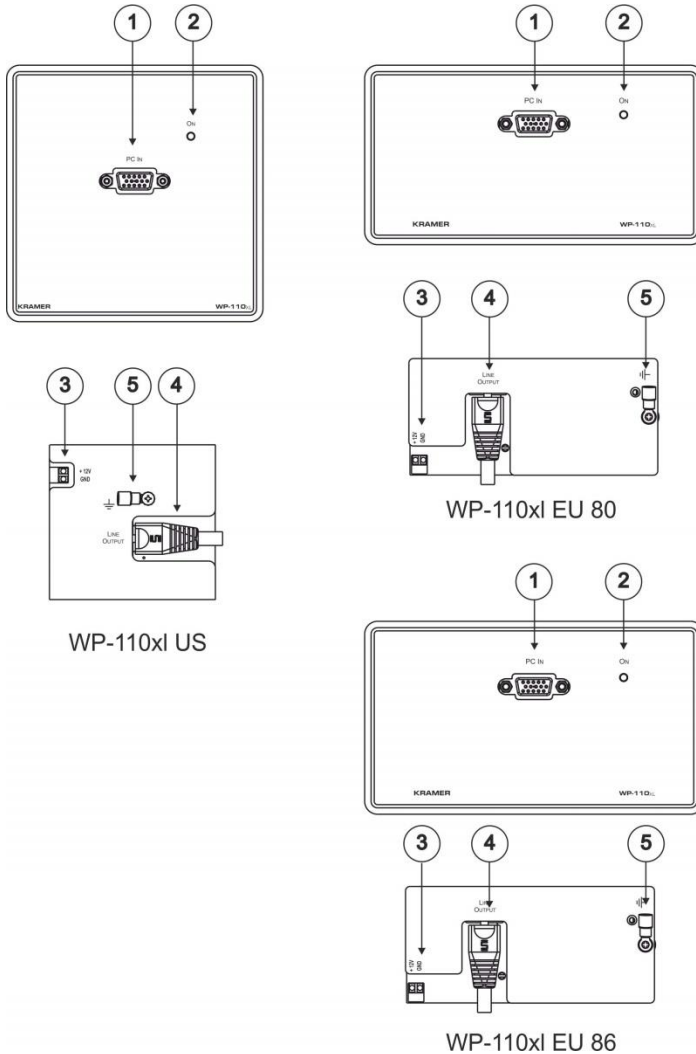

Figure 1: WP-110xl UXGA/Data Line Transmitter
3. Connect the 12V DC power adapter to the power terminal block (see Figure 1) on the **WP-110xl** and connect the adapter to the mains electricity.